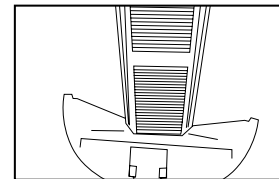

Fig. 2
2. Open the plate outward until the tabs at the bottom of the grill plate easily slide away from the unit. Fig. 2